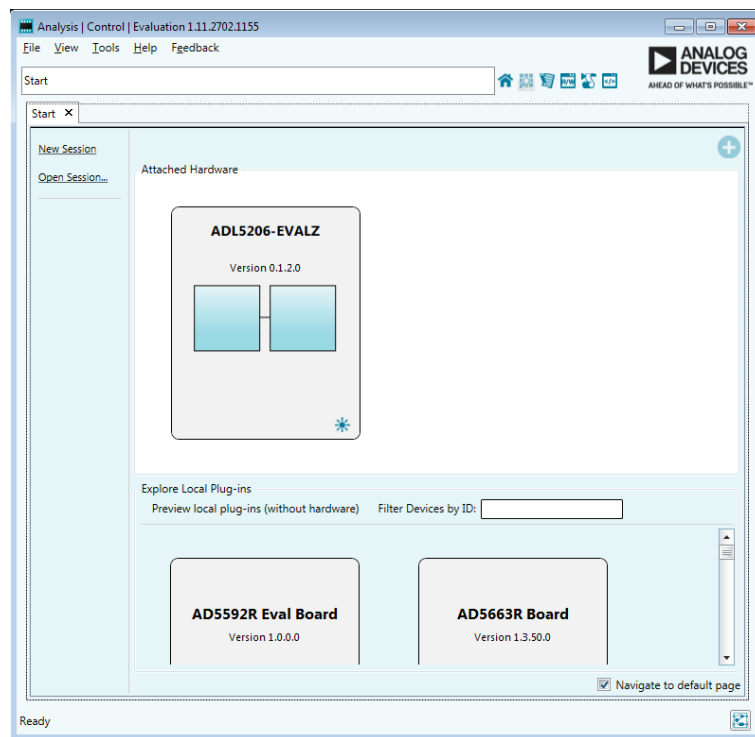

Figure 5. Initial ACE Start Window
2. Open the ACE software by going to **Start > Analog Devices > ACE**. The ACE software then displays the ACE **Start** window shown in Figure 5. The ADL5206-EVALZ is detected automatically and displays within the **Attached Hardware** section.